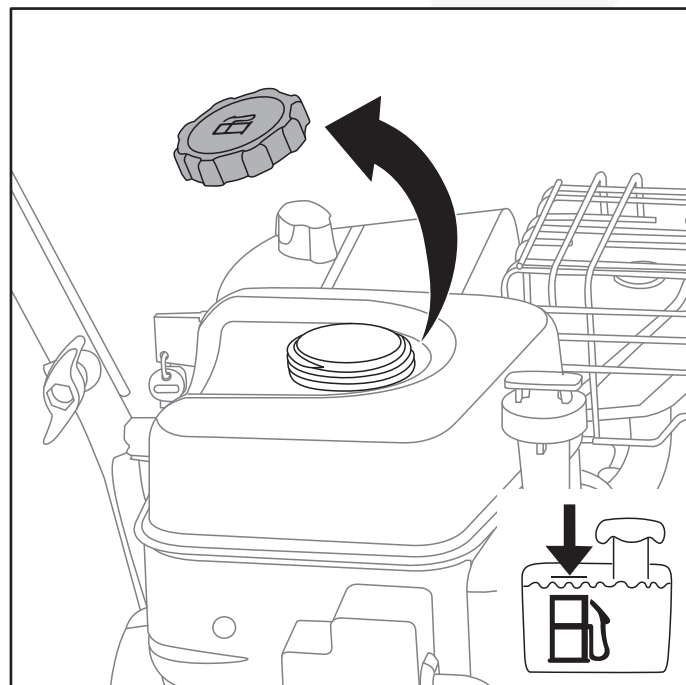

Fig. 8
2. Remove the fuel cap. (Fig. 8)